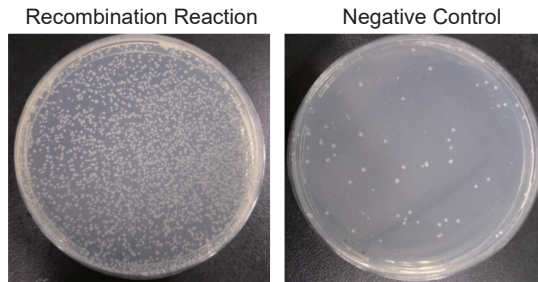

Fig 7. Plate Incubated Overnight
- ◇ After overnight culture, hundreds of single clones will form on the transformation plate of recombination reaction, whereas fewer of those on the transformation plate of negative control (Fig 7).